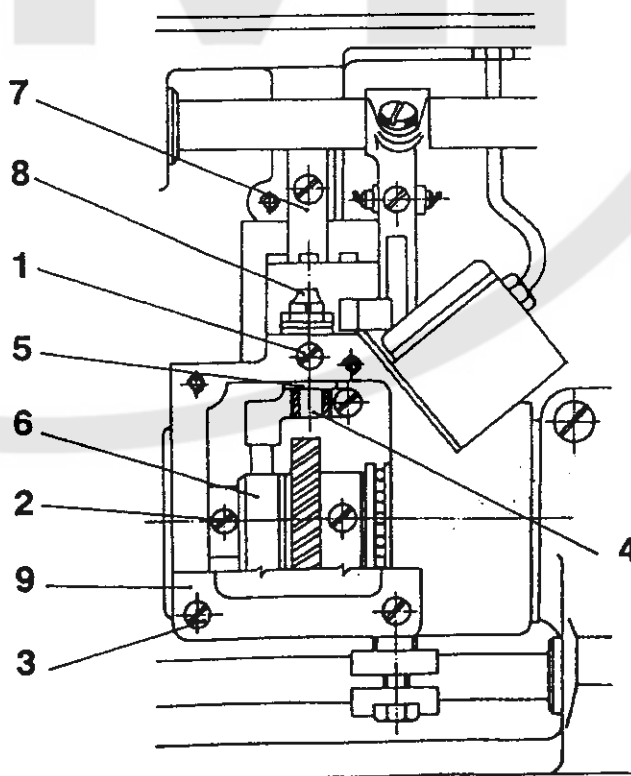

Figure 9
**13. To adjust the hook opening (Fig. 9)**